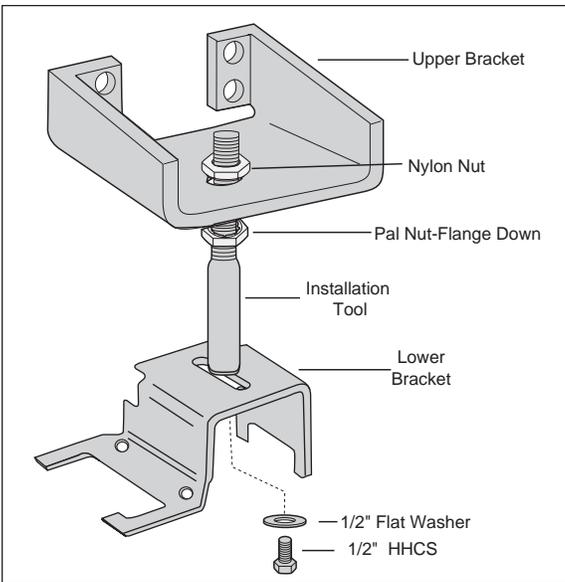

Figure 3
2. Place the upper bracket "legs up" onto the threaded end of the tool resting on the bottom Pal nut. Then thread a nylon nut onto the tool to hold the bracket in place (Figure 3).
3. Use the 1/2" x 7/8" hex head bolt and flat washer to attach the lower bracket to the bottom of the installation tool. Part #03001 is the driver-side bracket. Part #03002 is the passenger-side bracket. Leave loose enough to adjust in and out (Figure 3).